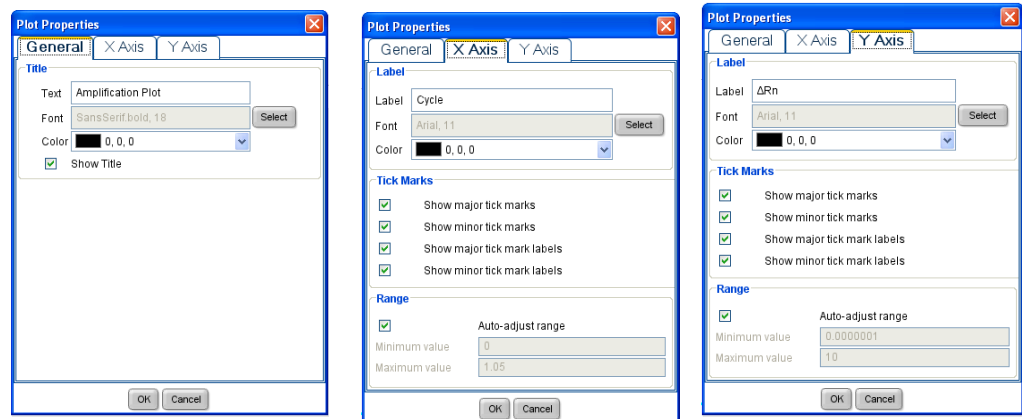

Figure 26 Plot Properties areas
3. To change the appearance of a plot, click  (Edit Plot Properties) to open the Plot Properties dialog box. Three tabs are displayed (Figure 26).